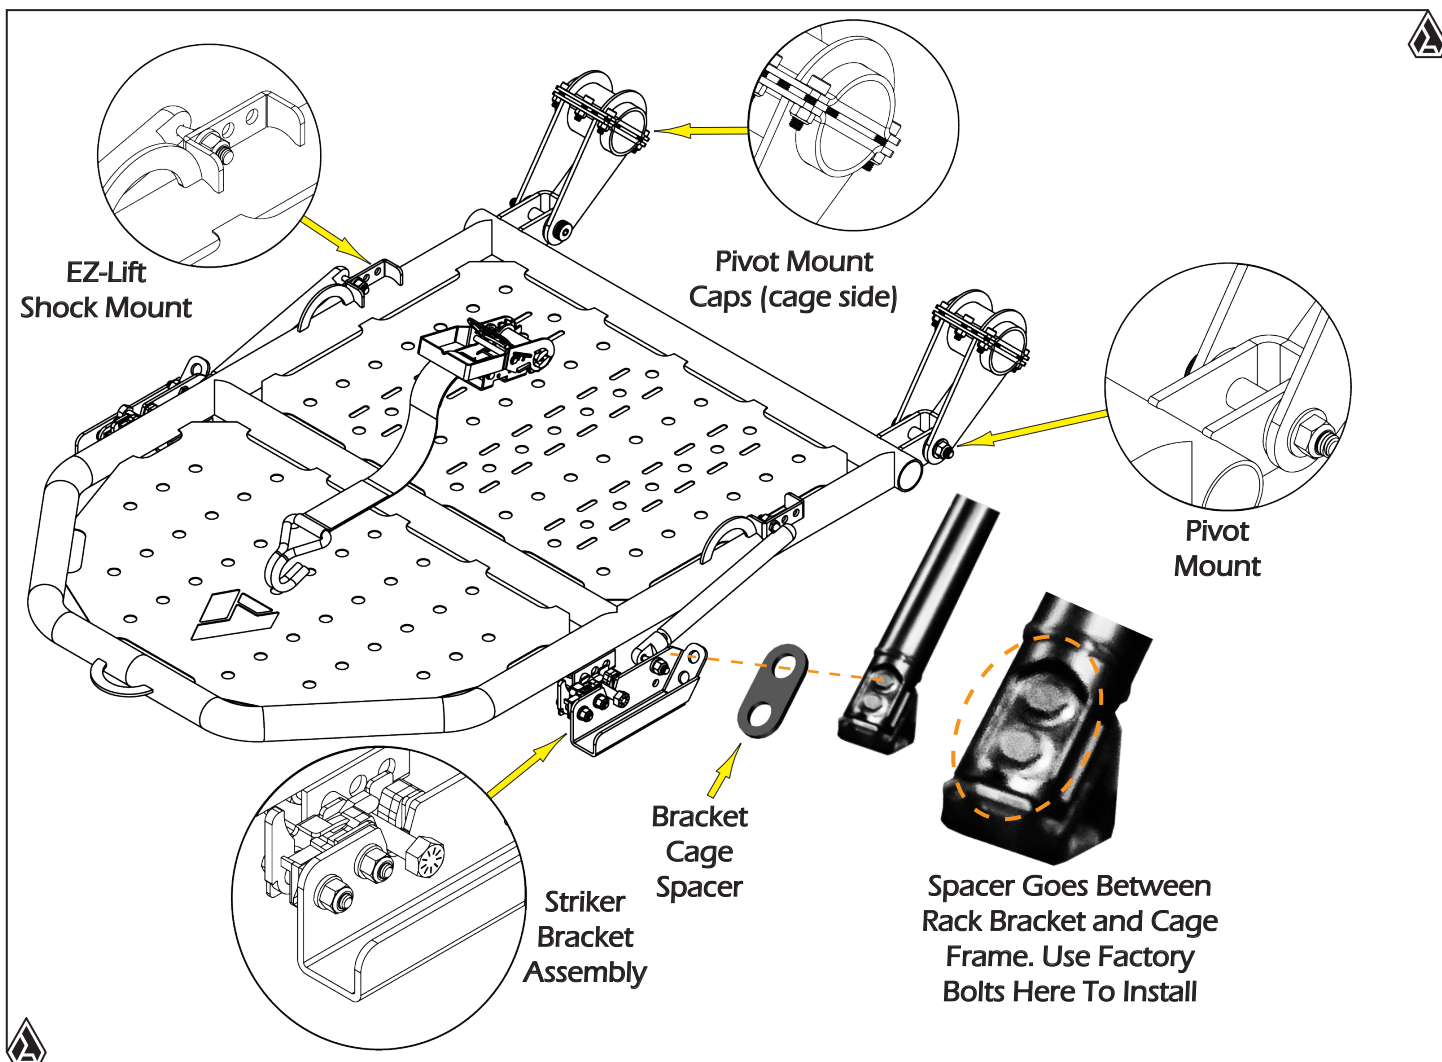

FIG.1
1. First, Set the Adventure Rack on a flat surface and begin installing the rack pivot mount, using the supplied plastic washers. (Fig. 1) The washers should be placed on the inside where between the pivot mount and rack. This step requires 2 shoulder screws with 6mm hex cap and 15mm nylon lock nut. Note: Do not install the EZ-lift ball socket studs in this step.